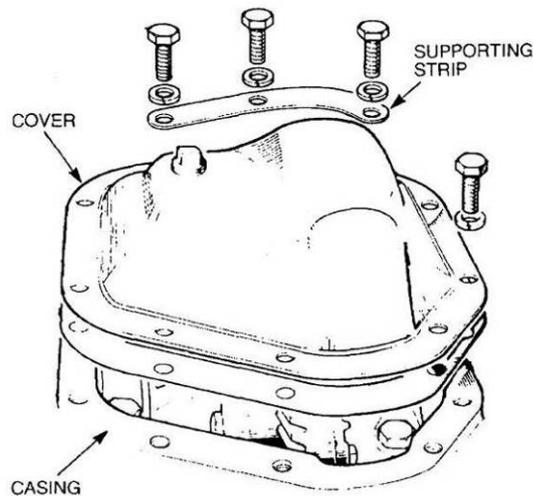

Figure 225 Removal of the Differential Cover
- d. Remove the bolts, lock-washers and support strip retaining the differential cover. Remove the cover and gasket (Figure 225).